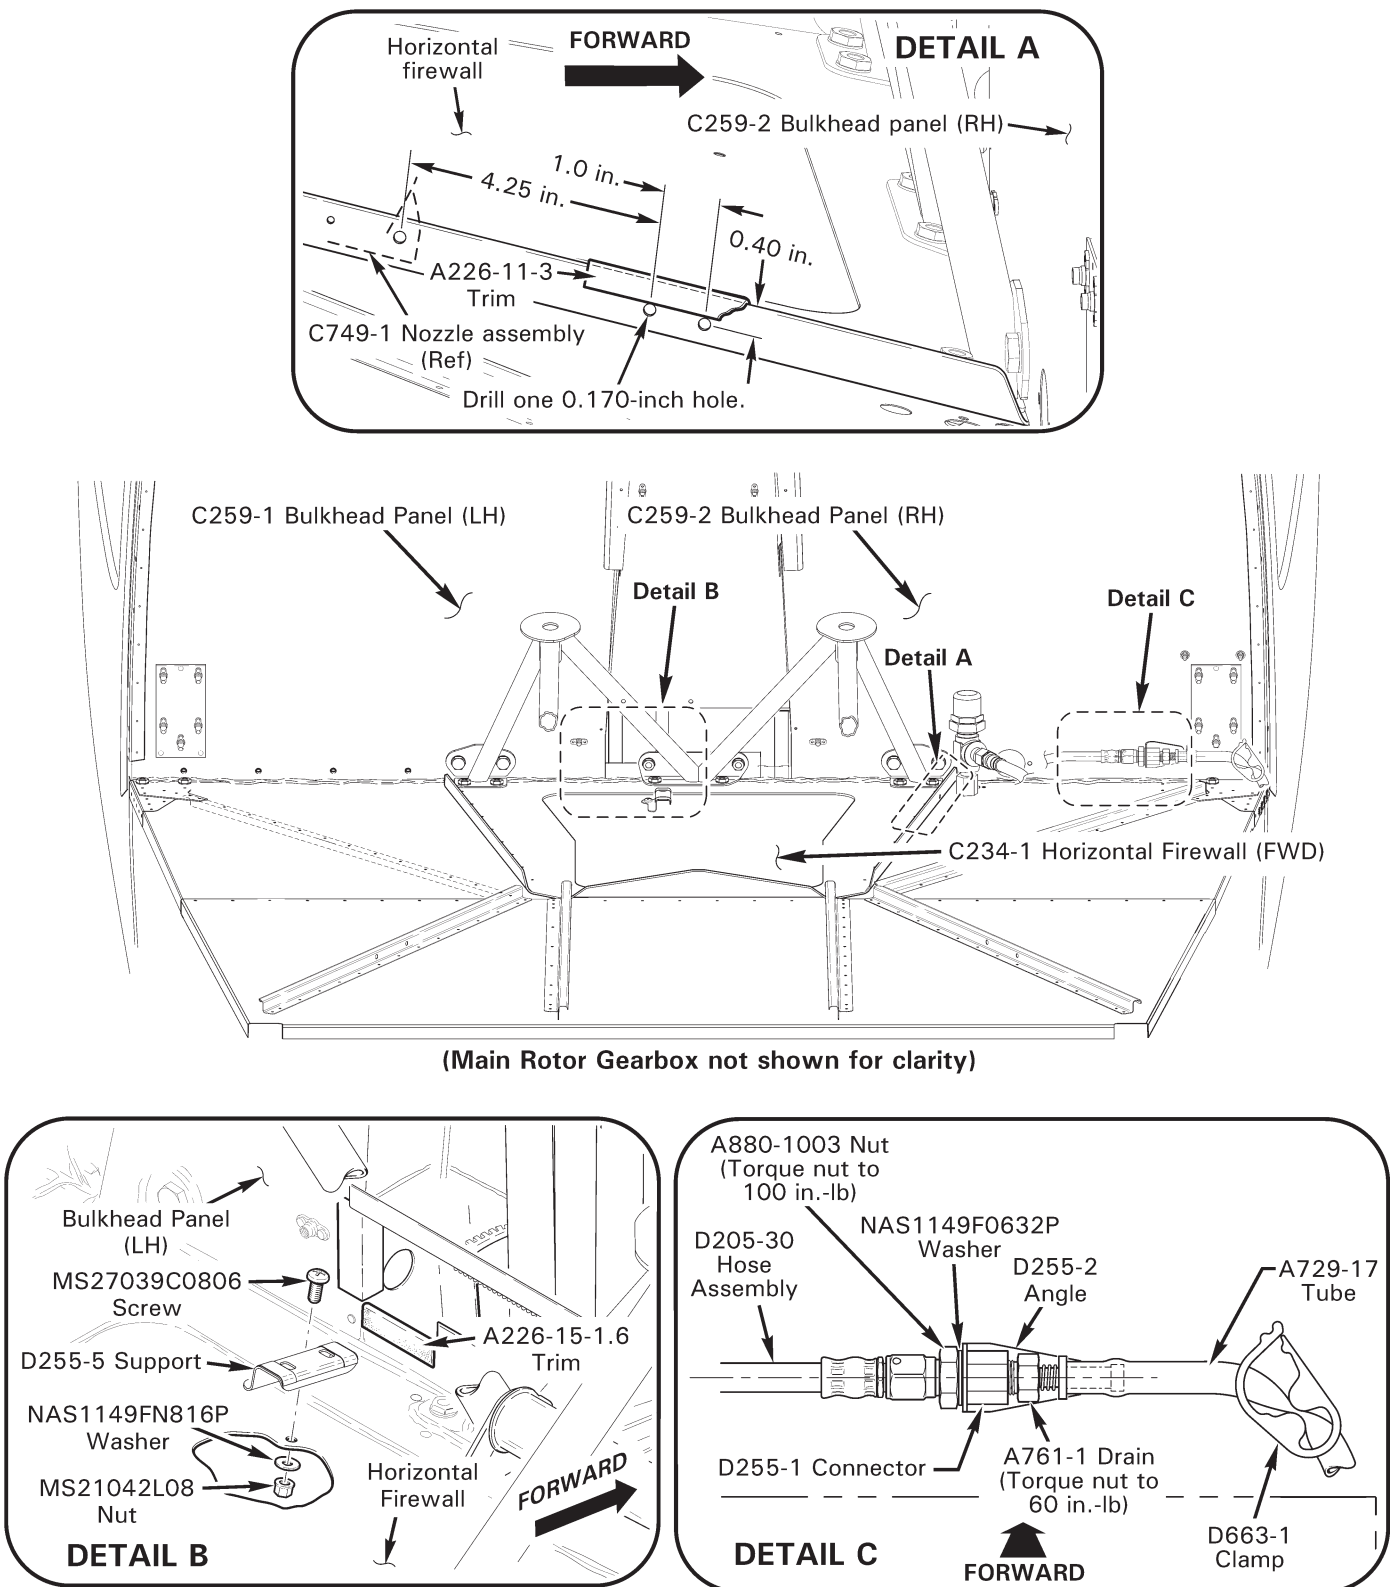
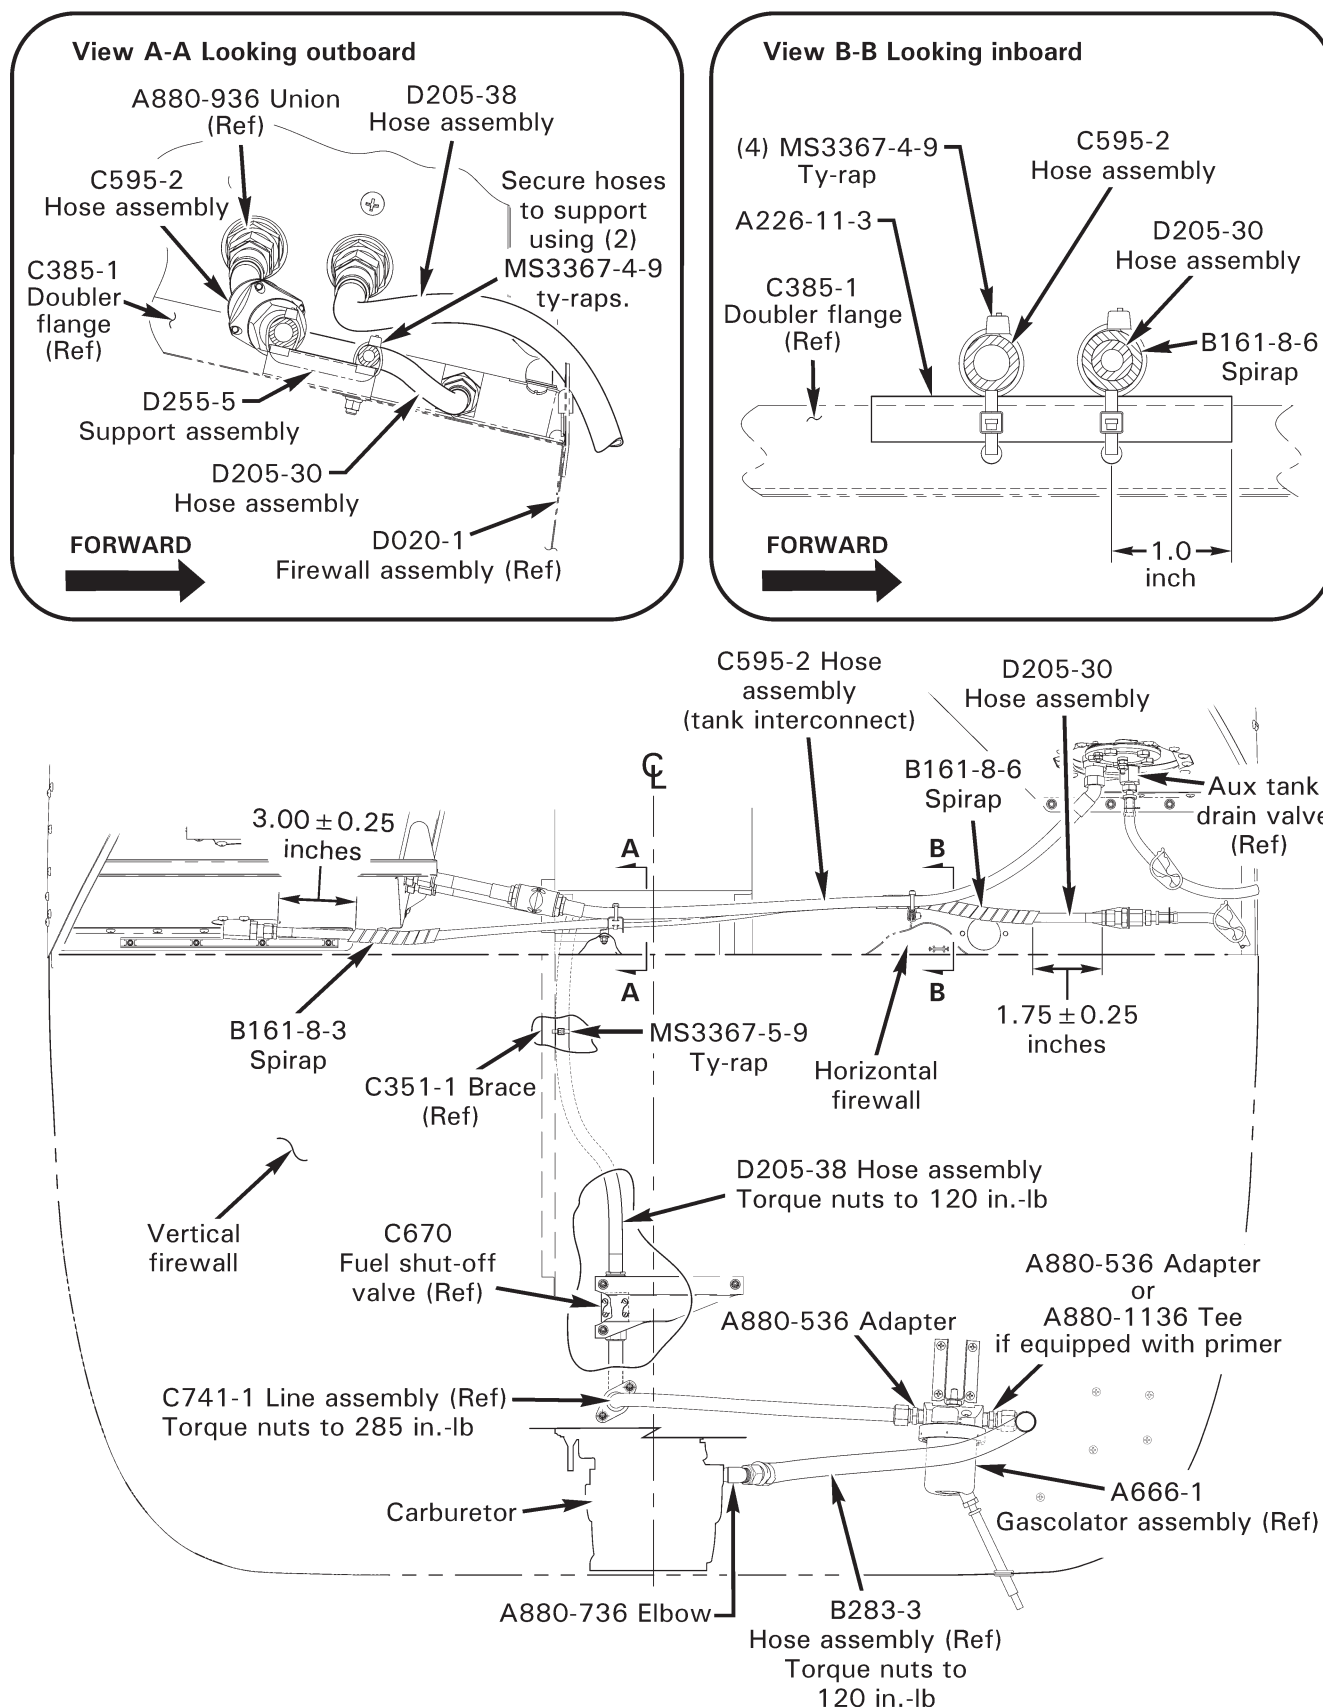
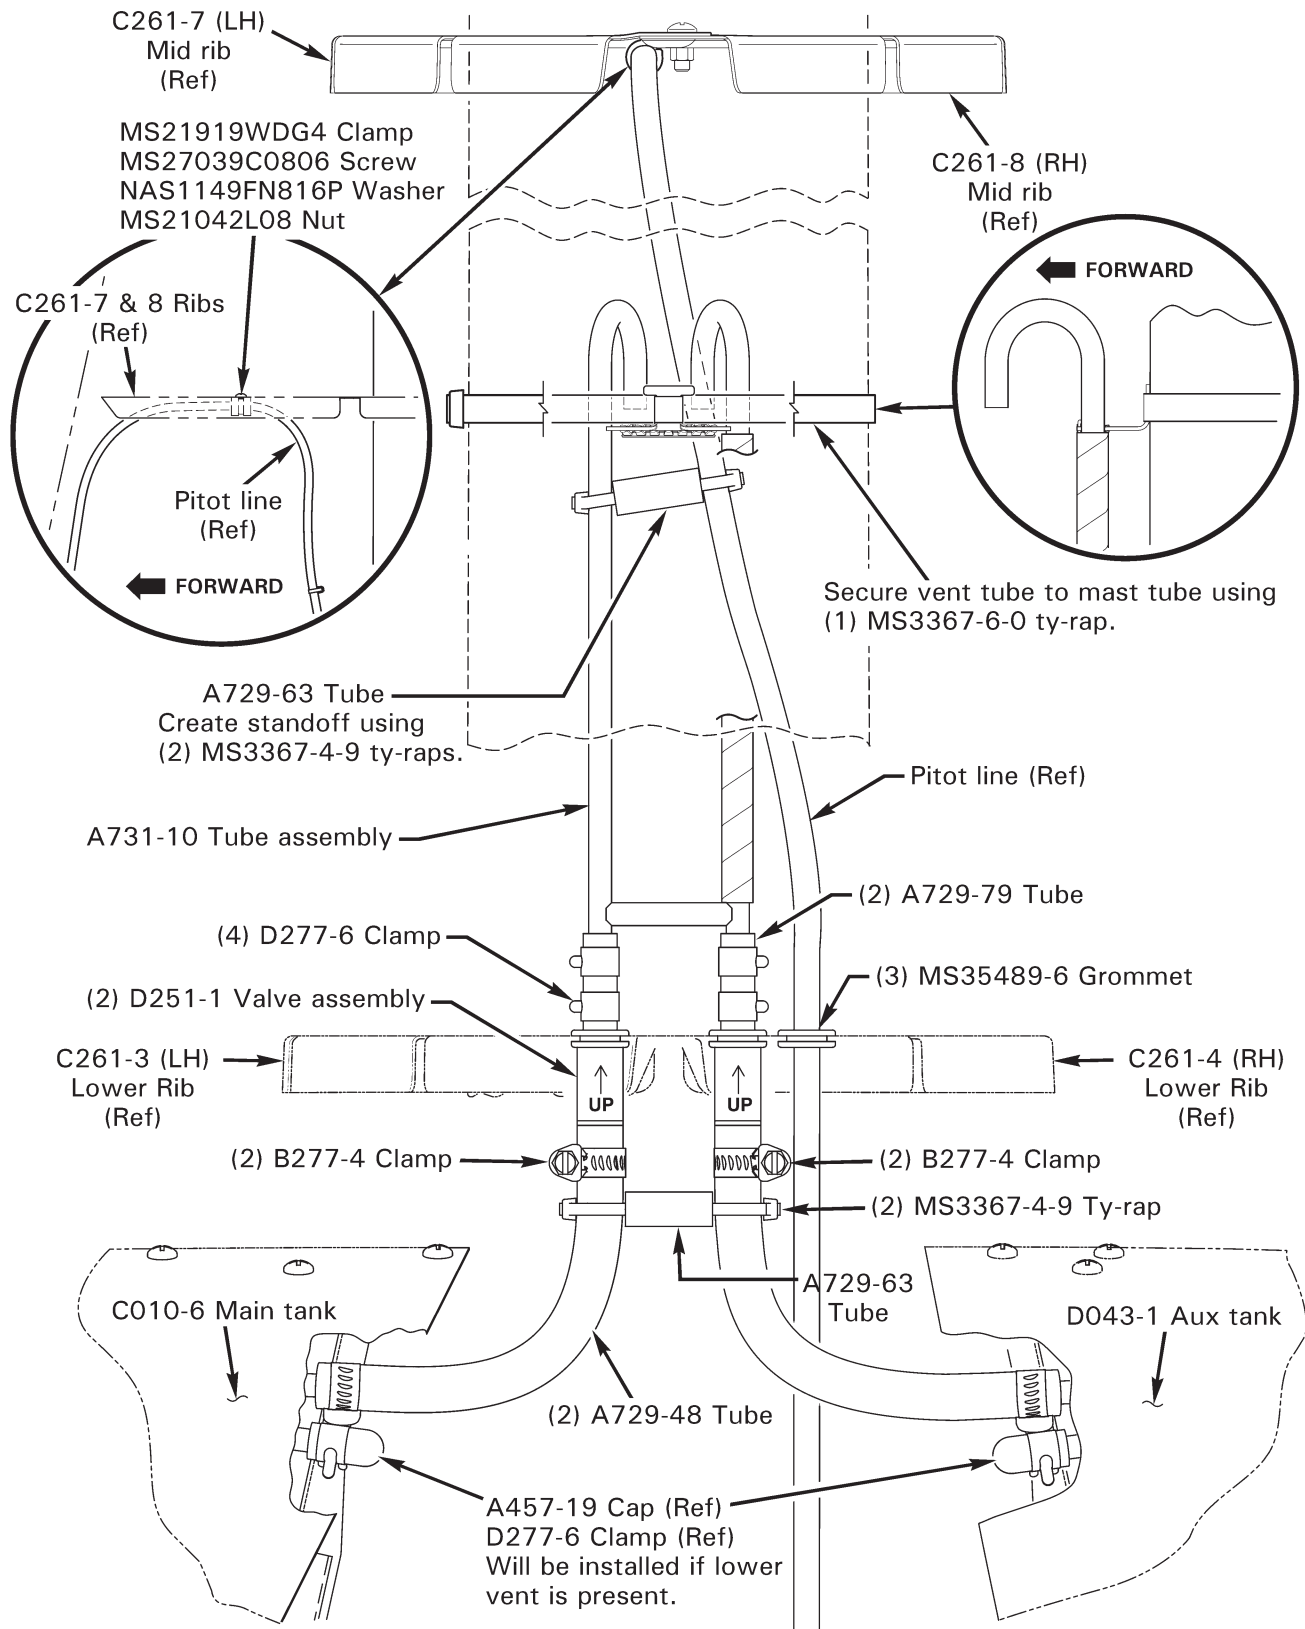

FIGURE 1 Bulkhead upgrades
FIGURE 3 R44 Installation
FIGURE 5 Fuel tank vent system installation
4. Refer to Figure 1, Detail A. Lay out and drill (1) 0.170-inch diameter hole in C385-1 doubler, one inch aft of existing hole. Deburr hole and clean up drilling debris. Thoroughly clean horizontal firewall. Install A226-11-3 trim on doubler, centered above drilled holes as shown.
5. Refer to Figure 1, Detail B. Install A226-15-1.6 trim on bulkhead lip as shown. Install D255-5 support using (1) MS27039C0806 screw, (1) NAS1149FN816P washer, and (1) MS21042L08 nut to horizontal firewall.
7. Refer to IPC Figure 28-1 and Figure 3. Lubricate (1) MS29512-06 packing using A257-6 grease and assemble to new A880-936 union. Install union with packing to main tank drain fitting and special torque to 200 in.-lb. Connect D205-30 hose assembly to union. Special torque hose nut to 100 in.-lb and torque stripe per MM Figure 2-1. Route hose assembly thru notch in C385-1 doubler.
8. Refer to Figure 3. Connect new D205-38 hose assembly to main tank outlet (forward fitting) and fuel shut-off valve. Special torque hose nuts to 120 in.-lb and torque stripe per MM Figure 2-1. Install MS3367-5-9 ty-rap around hose thru drilled holes in C351-1 brace (IPC Figure 28-1, Detail C). Cinch ty-rap until snug without over-tightening, and trim tip flush with head.
9. Refer to Figure 1, Detail C. Install new A880-1003 nut and NAS1149F0632P washer, and retained D255-1 connector in D255-2 angle as shown, and special torque nut to 100 in.-lb. Connect D205-30 hose assembly to nut and (using a backup wrench on nut) special torque hose nut to 100 in.-lb. Apply B270-6 sealant sparingly to retained A761-1 drain valve tapered threads (do not apply sealant to first thread) and connect valve to connector. Hold connector, special torque valve to 60 in.-lb, and torque stripe per MM Figure 2-1. Install A729-17 tube and D663-1 clamp.
10. Refer to Figure 3 and Figure 1, Detail C. Install B161-8-3 spirap around D205-30 hose assembly where hose routes near C385-1 doubler (see Figure 5) left-side vertical flange, and B161-8-6 spirap where hose routes near doubler right-side vertical flange. Connect hose to bulkhead-mounted D255-1 connector, special torque nut to 100 in.-lb, and torque stripe per MM Figure 2-1. Secure D205-30 hose at left-side vertical flange per View A-A, and right-side vertical flange per View B-B. Cinch ty-raps until snug without over-tightening, and trim tip flush with head.
11. Refer to Figures 3 and 4, View A-A. Lubricate (1) MS29512-06 packing using A257-6 grease and assemble to new A880-936 union. Install union with packing to main tank interconnect fitting and special torque to 200 in.-lb. Connect new C595-2 (R44) or C595-3 (R44 II) hose assembly to union and special torque hose nut to 120 in.-lb and torque stripe per MM Figure 2-1.
12. I. R44 only: Refer to Figure 3.
13. Refer to Figure 5. Install A457-19 cap(s) on lower fuel (main & aux) tank vent fittings and secure using D277-6 clamp(s). Install (3) new MS35489-6 grommets in lower ribs. Observe orientation markings and install (2) D251-1 rollover vent valve assemblies through lower rib grommets and attach A729-48 (tank vent) tubes using (2) B277-4 clamps. Install (2) A729-79 tubes to valve assemblies and secure using (2) D277-6 clamps.
16. Refer to Figure 5. Route pitot line through grommet in rib. Create stand off and secure pitot line to A731-10 tube assembly (left-side tube) using A729-63 tube and ty-raps as shown. Position MS21919WDG4 clamp around pitot line and secure clamp to C261-7 & -8 mid ribs using hardware shown. Connect pitot line to pitot tube. Perform pitot system leak test per MM § 13-10.